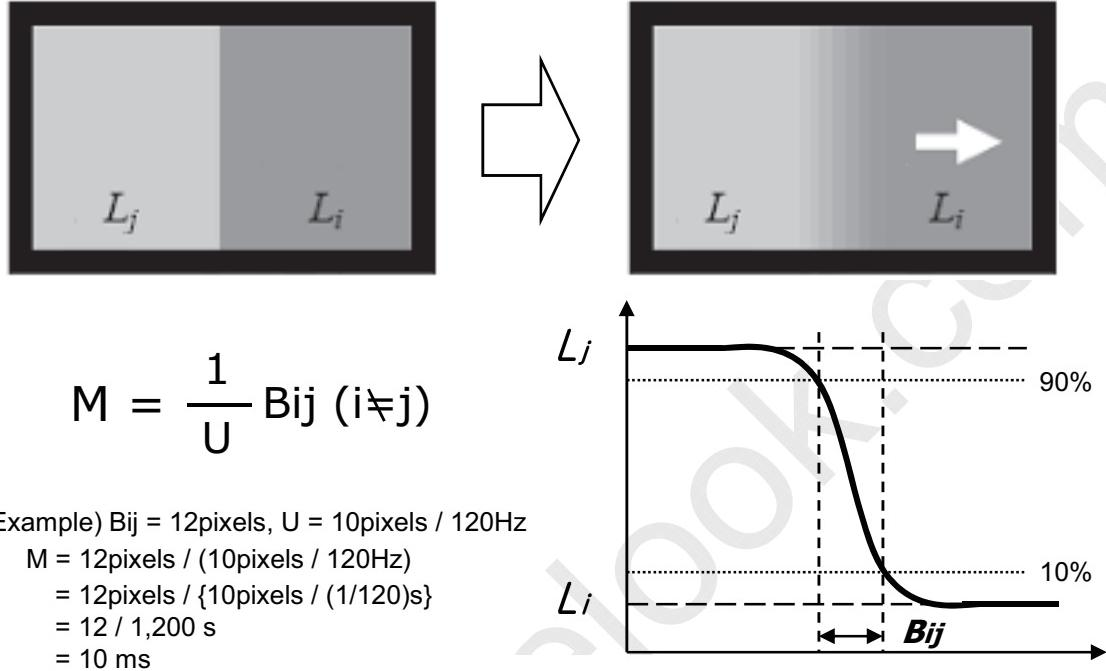

FIG. 4 MPRT
5. MPRT is defined as the 10% to 90% blur-edge width  $Bij(\text{pixels})$  and scroll speed  $U(\text{pixels/frame})$ at the moving picture. For more information, see FIG 4